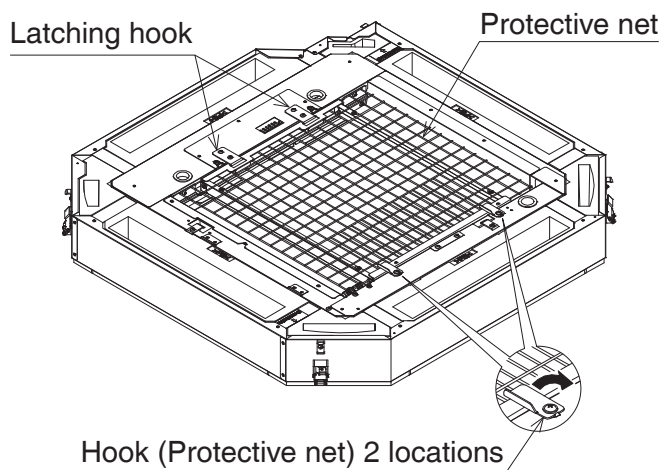

Figure 4
- (1) Remove the tapes securing the 2 hooks (protective net) to turn the 2 hooks (protective net). (Refer to **Figure 4**.)